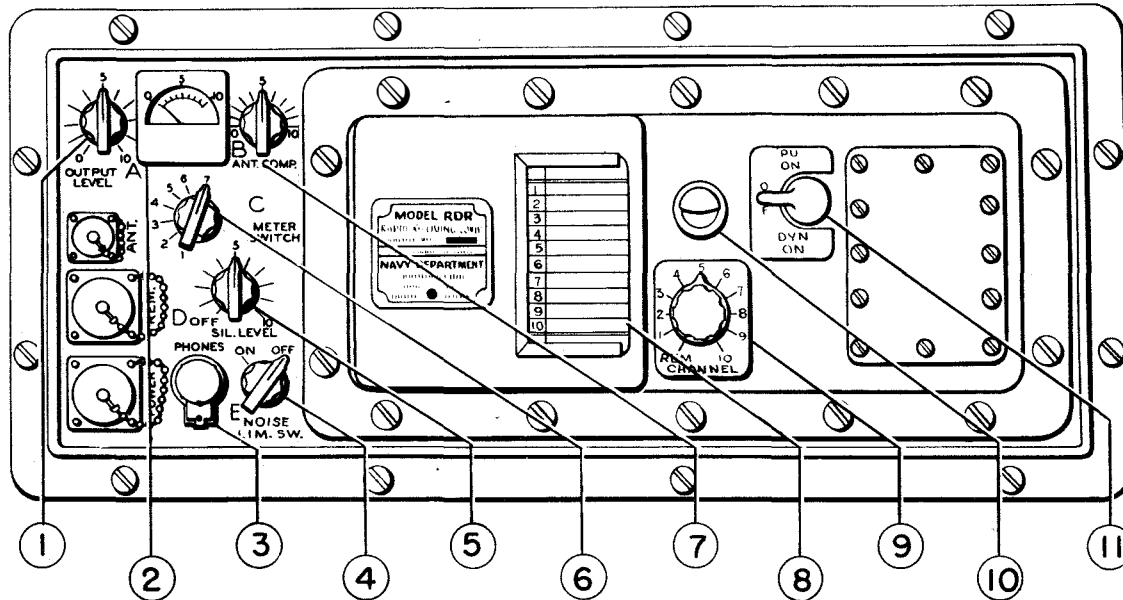

Figure 4-1. Receiver Panel Controls
a. RECEIVER CONTROLS.—The controls involved in the operation of the receiver are indicated and their functions summarized in Figure 4-1.